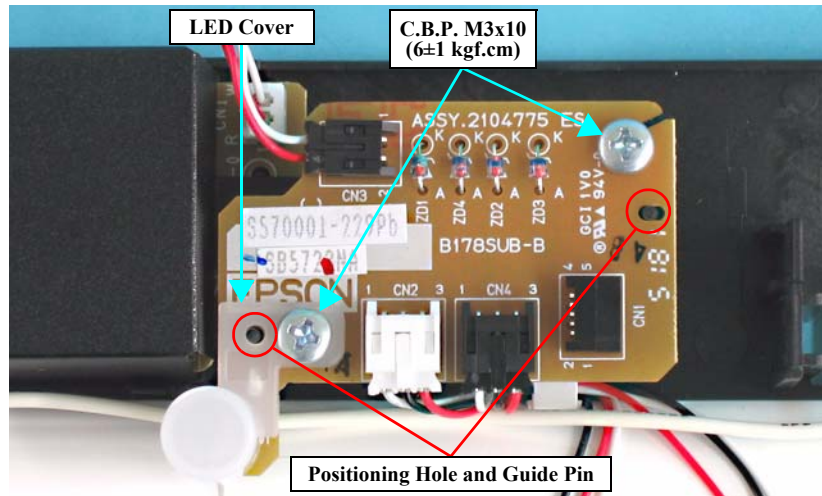

Figure 4-45. Removing the SUB_B Board (1)
- Refer to Figure 4-45 when attaching the Protective Sheet to the TPU Inverter Board.
- When installing the SUB_B Board, match the positioning holes and the guide pins as shown in Figure 4-45.
- When installing the LED Cover to the SUB_B Board, match the positioning holes and the guide pins as shown in Figure 4-45.